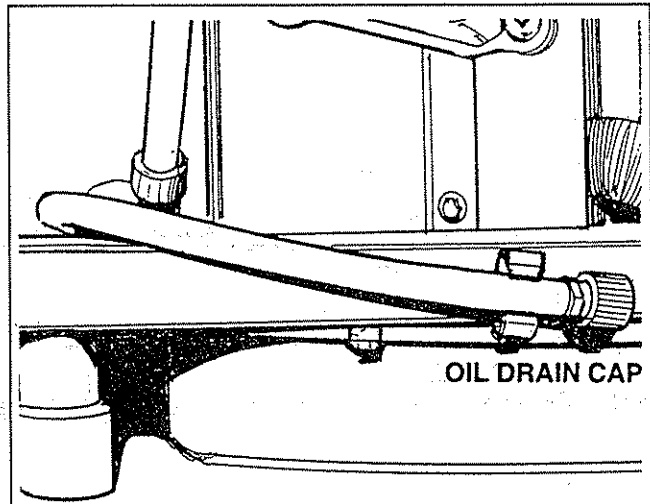

Figure 9 — Location of Oil Drain Cap
- With engine still warm from running, remove oil drain plug (Figure 9). Drain oil completely into a suitable container.